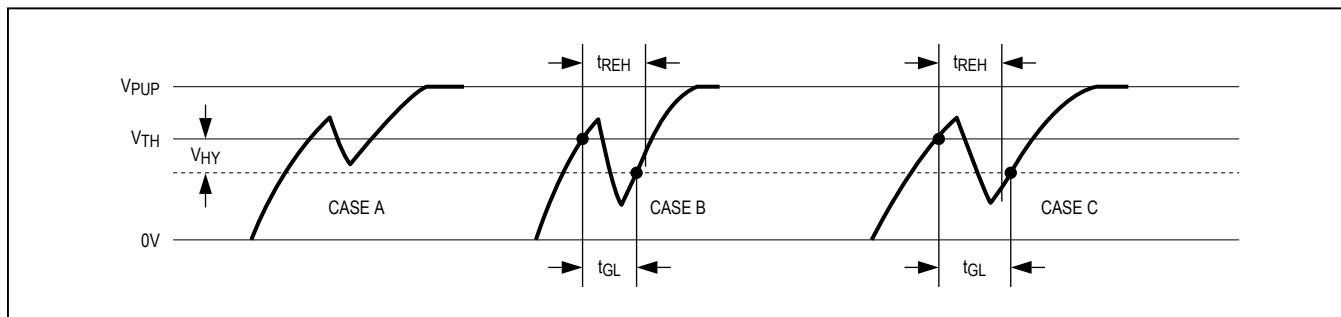

Figure 12. Noise Suppression Scheme
- 2) There is a hysteresis at the low-to-high switching threshold  $V_{TH}$ . If a negative glitch crosses  $V_{TH}$  but does not go below  $V_{TH} - V_{HY}$ , it is not recognized (Figure 12, Case A). The hysteresis is effective at any 1-Wire speed.
- 3) There is a time window specified by the rising edge hold-off time  $t_{REH}$  during which glitches are ignored, even if they extend below the  $V_{TH} - V_{HY}$  threshold (Figure 12, Case B,  $t_{GL} < t_{REH}$ ). Deep voltage drops or glitches that appear late after crossing the  $V_{TH}$  threshold and extend beyond the  $t_{REH}$  window cannot be filtered out and are taken as the beginning of a new time slot (Figure 12, Case C,  $t_{GL} \geq t_{REH}$ ).